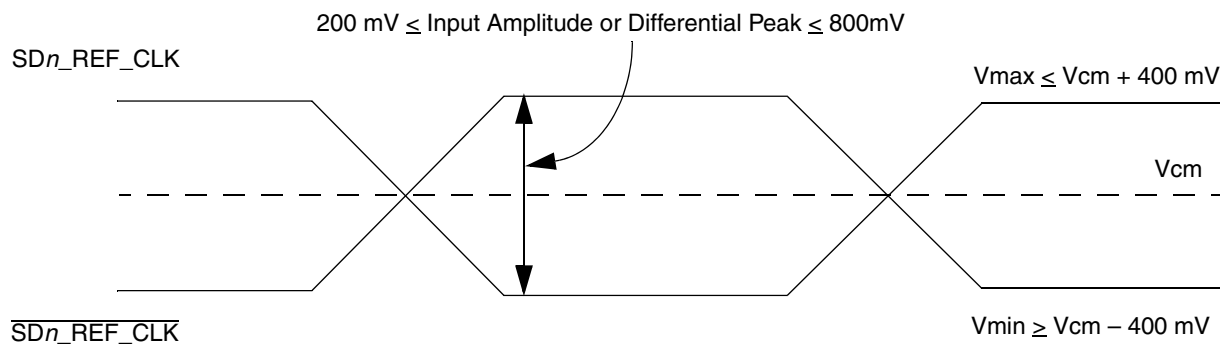

Figure 38. Differential Reference clock input DC requirements (external AC-coupled)
- For **external AC-coupled** connection, there is no common mode voltage requirement for the clock driver. Since the external AC-coupling capacitor blocks the DC level, the clock driver and the SerDes reference clock receiver operate in different common mode voltages. The SerDes reference clock receiver in this connection scheme has its common mode voltage set to SGND_SRDS. Each signal wire of the differential inputs is allowed to swing below and above the common mode voltage (SGND_SRDS). Figure 38 shows the SerDes reference clock input requirement for AC-coupled connection scheme.